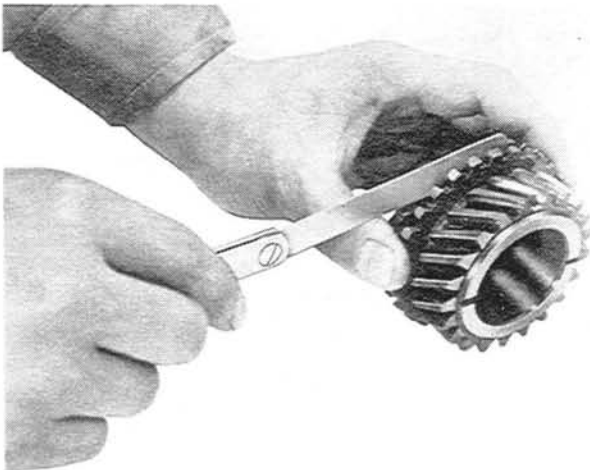

Fig. 7-15 Checking of synchronizer ring
2. Inspect the synchronizer ring for wear. To check the wear of the synchronizer ring, fit the synchronizer ring evenly to the gear cone and measure the clearance between the side faces of the synchronizer ring and the gear with a feeler gauge, as shown in Fig. 7-15. If it is less than **0.8 mm (0.032 in)**, replace the synchronizer ring or gear. The standard clearance is 1.5 mm (0.060 in).